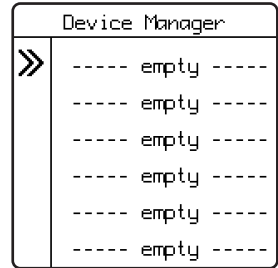

Fig. 1
5. Select an empty line (----- empty -----) in the list using the arrow buttons (Fig. 1).